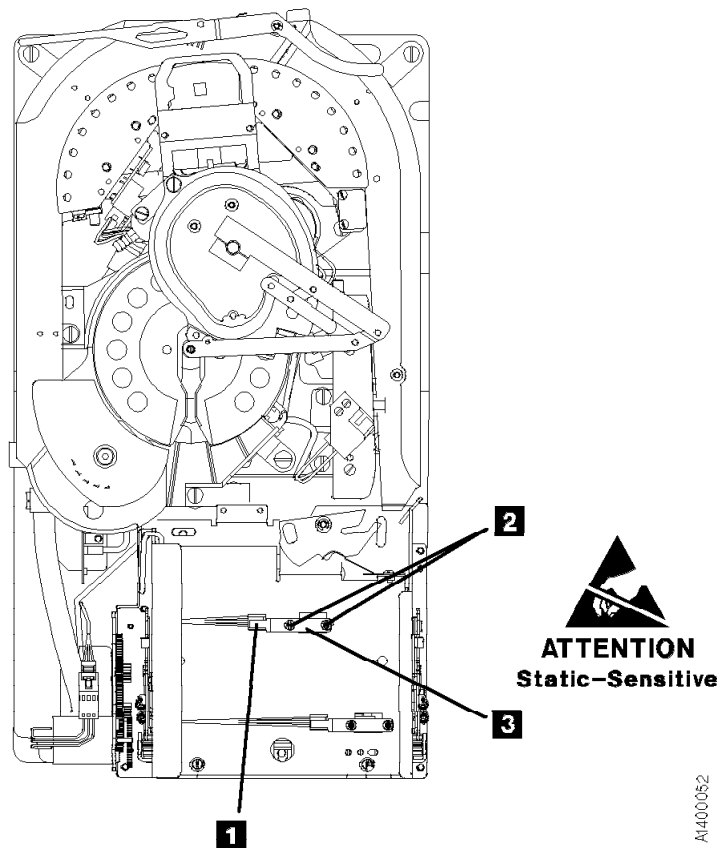

Figure 339. Tray-Up Sensor
3. See Figure 339. Remove two screws **2** holding the tray-up sensor **3**.